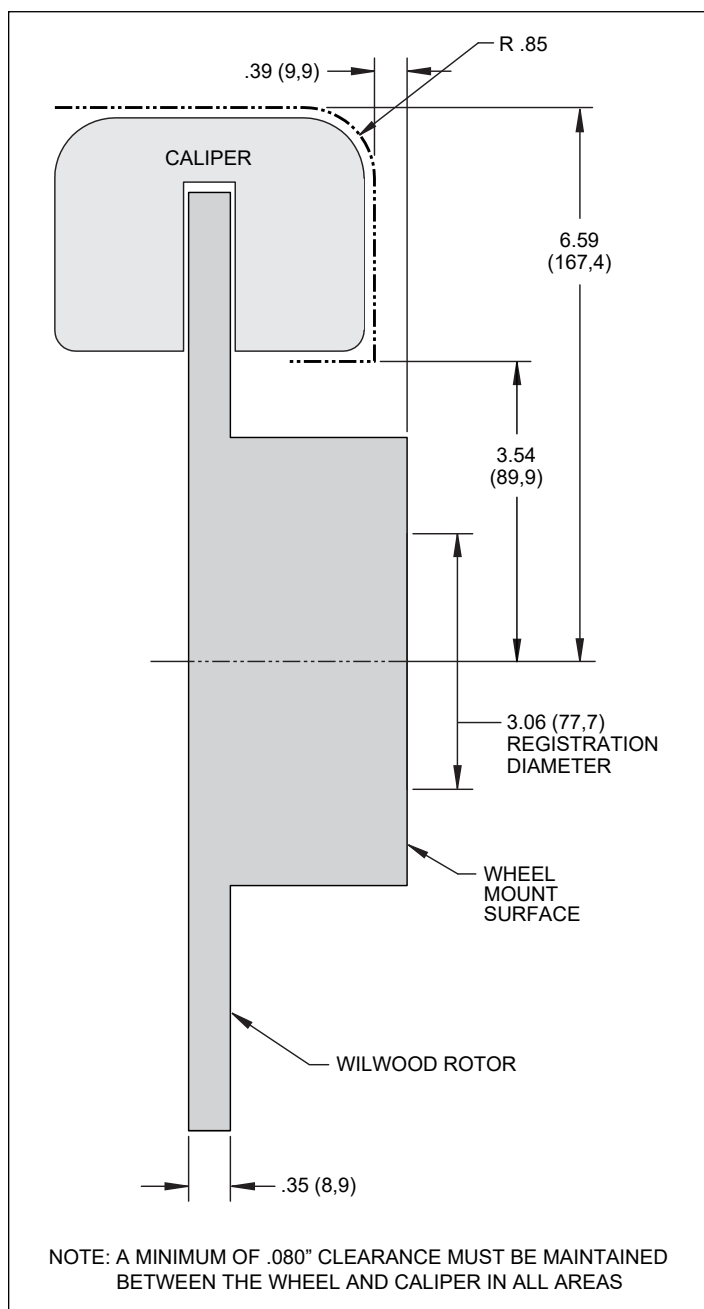

Figure 3. Wheel Clearance Diagram
- Review the Wheel Clearance Diagram (Figure 3, page 4) to verify that there is adequate clearance with the wheels you will be using with the installation.
• Verify wheel clearance using Figure 3.